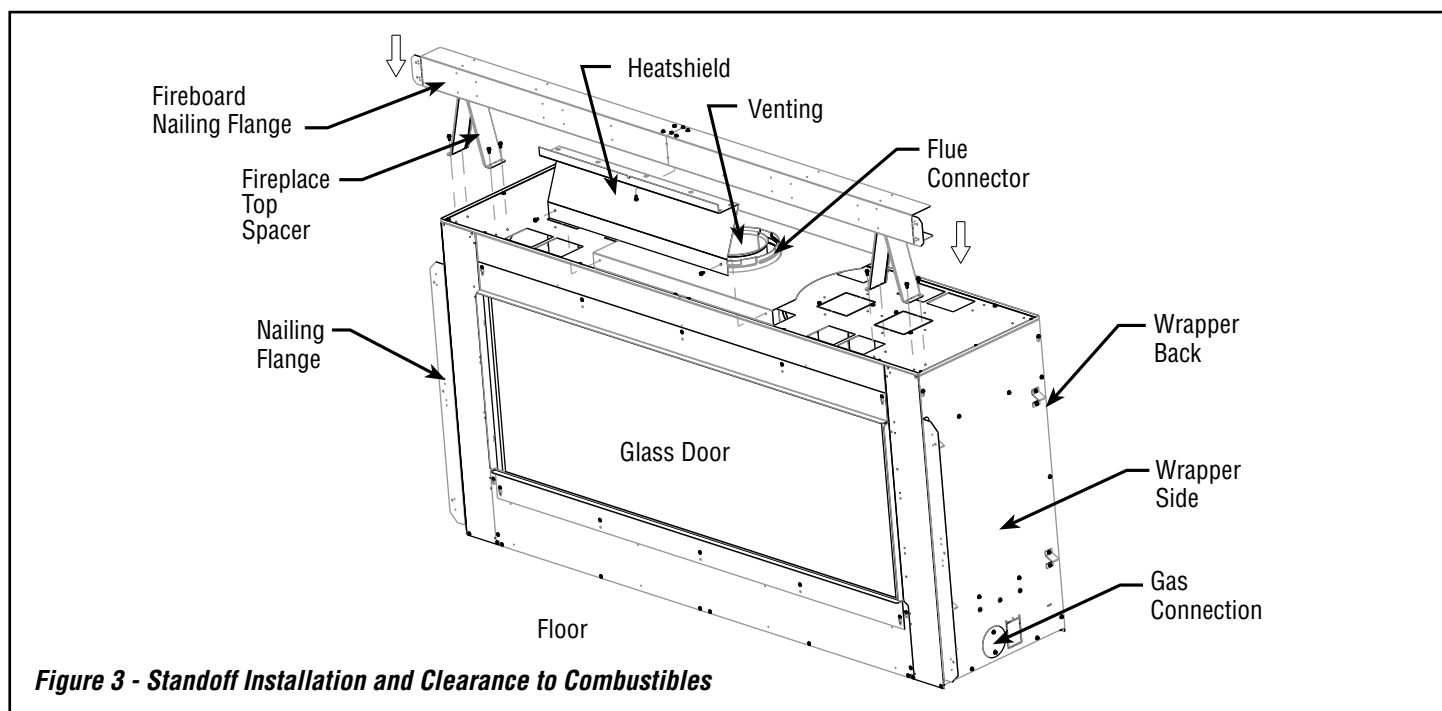

Figure 3 - Standoff Installation and Clearance to Combustibles
2. Using screws provided, attach assembly to forward portion of appliance top as shown in **Figure 3**.